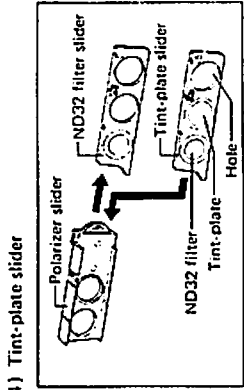
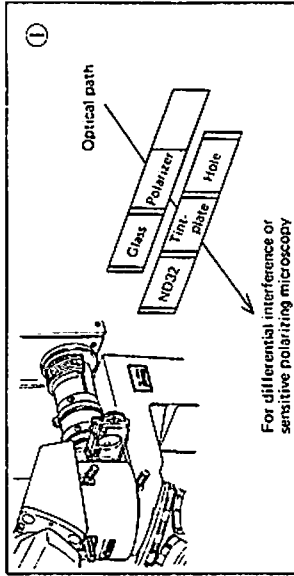

Fig. 8
Fig. 9-1
(1) In the case of differential interference and sensitive color polarizing observation, insert the tint-plate slider in place of the ND filter slider accompanied by the polarizer slider, in addition to the polarizing slider. (Fig. 8 & Fig. 9-1)